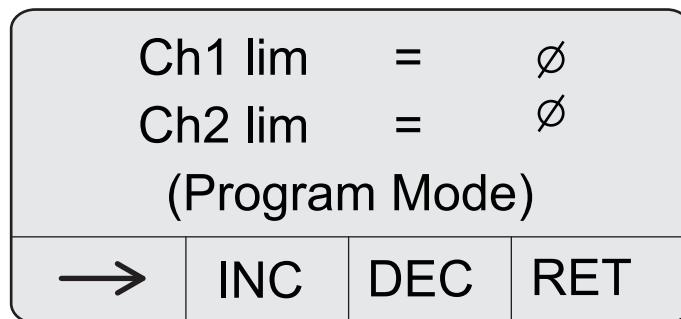

Figure 24 Set the alarm limit and hold time
6. Press 2 (DSP) on the main screen and then press 2 (NXT) twice to display the Alarm Limits screen (refer to Figure 24).
9. Press 2 (INC) or 3 (DEC) to set the alarm limits for the required settings time to 1 minute and the Hold time to 1 second (refer to Figure 24).